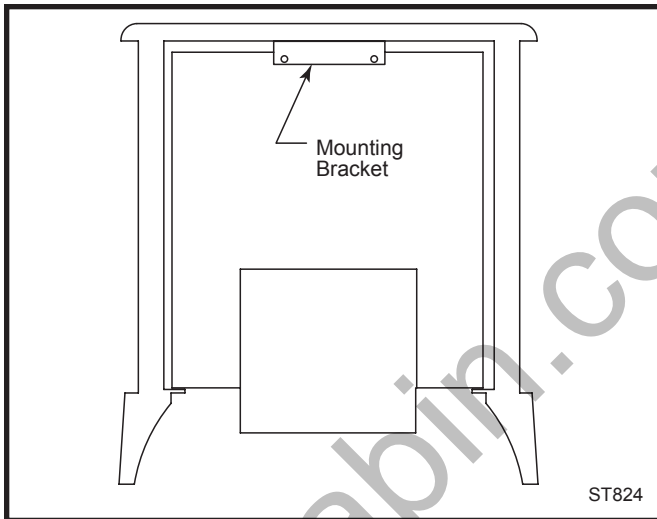

Fig. 3 Rear view of the stove showing the firebox mounting bracket.
4. Locate the firebox mounting brackets on the rear of the firebox. Remove the screws securing brackets. (Fig. 3)
4. Locate the firebox mounting bracket on the rear of the firebox. Remove the screws securing the firebox to the mounting bracket. (Fig. 3)